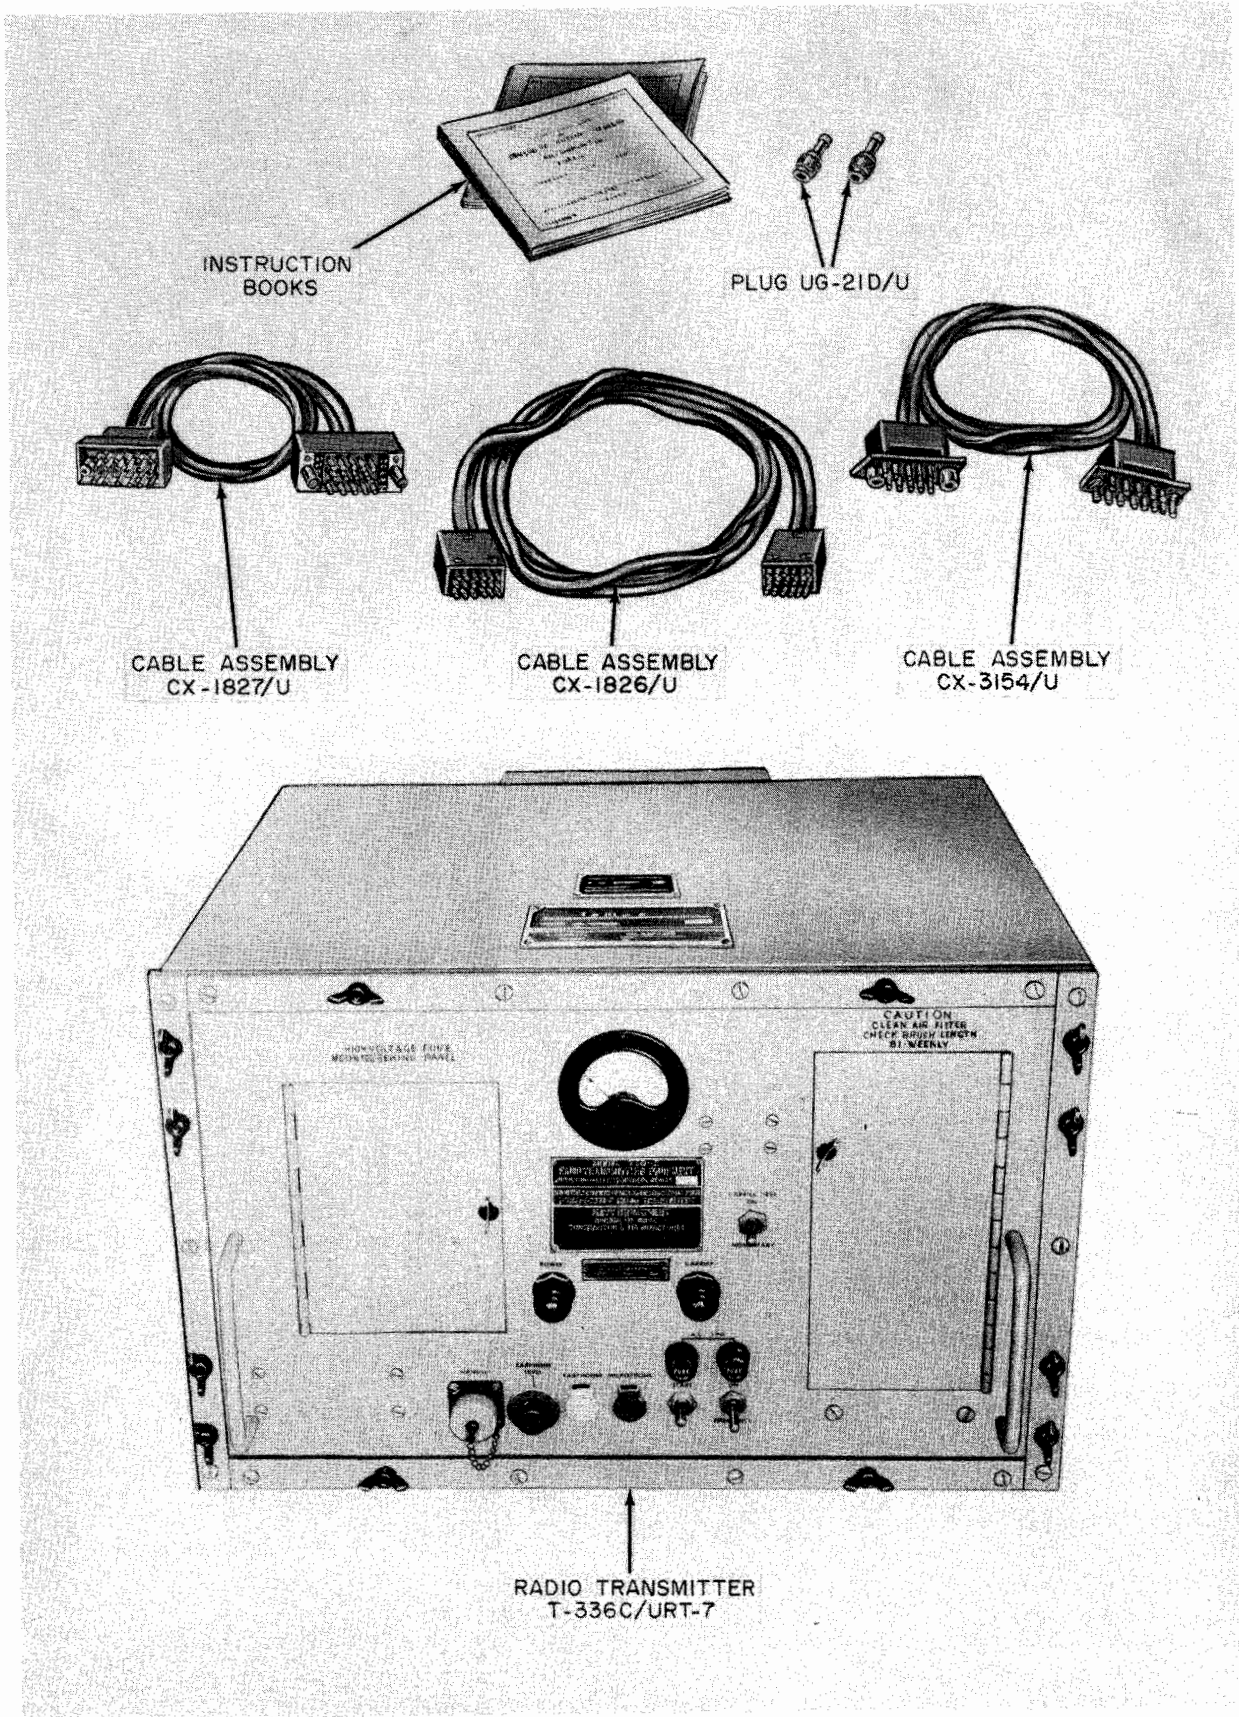

Figure 1-1. Radio Transmitting Set AN/URT-7C
The major components of Radio Transmitting Set AN/URT-7C consist of Radio Transmitter T-336C/URT-7 and Cable Assemblies CX-1827/U, CX-1826/U, and CX-3154/U; see figure 1-1. The equipment is employed for radiotelephone and modulated-continuous-wave (MCW) communications at frequencies from 115 to 156 megacycles per second. These frequencies limit the reliable range of the equipment to approximately "line-of-sight" transmission. The equipment can be installed on ships, submarines, and at shore stations.
b. TEST CABLES.—The three cable assemblies shown in figure 1-1 are supplied so that the Radio Transmitter may be operated with its component units physically disassembled. Operation of this type is often necessary when testing or repairing the equipment in order to gain access to circuits or components not readily available when the transmitter is completely assembled. Cable Assembly CX-1826/U is used to connect the Power Supply to the terminal box (when mounted on the cabinet). Cable Assembly CX-1827/U is employed between the Power Supply and the Radio Modulator, and Cable Assembly CX-3154/U connects the Power Supply to the Amplifier-Oscillator unit.